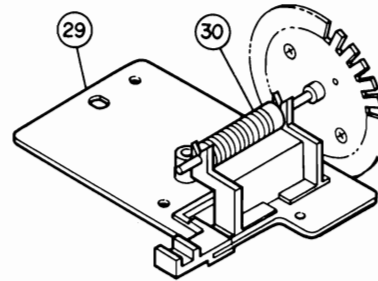

Figure 11
**(G) Removal of Worm Gear Assembly (30)**
Lift up the Worm Gear Assembly (30) and remove it as shown in Figure 11.